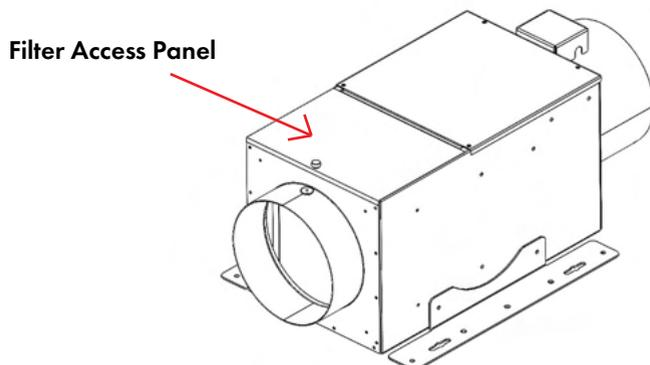

Figure 10
- Remove thumb screw securing the filter access door from the FAPV-L housing (see Figure 10).